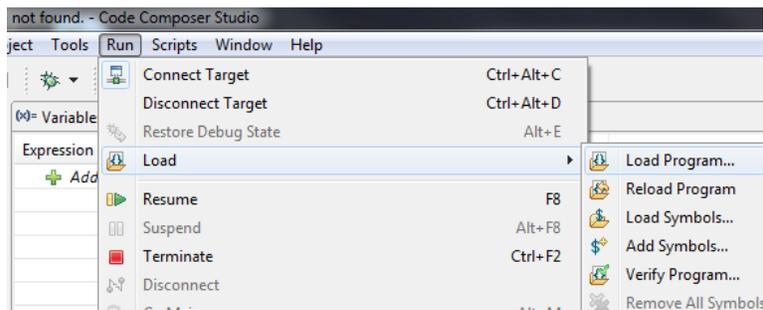

Figure 10. Load Program Selection
- After the device connects, go to **Run -> Load -> Load Program** (see Figure 10). Browse to the **BOOST-DRV8848 Hardware and Software Files** folder that was downloaded from the tool folder. Go into the *Application* subdirectory and then go into the GUI subdirectory. Select the **appProgram.out** file (Application\BOOST-DRV8848_GUIvX.X\appProgram.out).